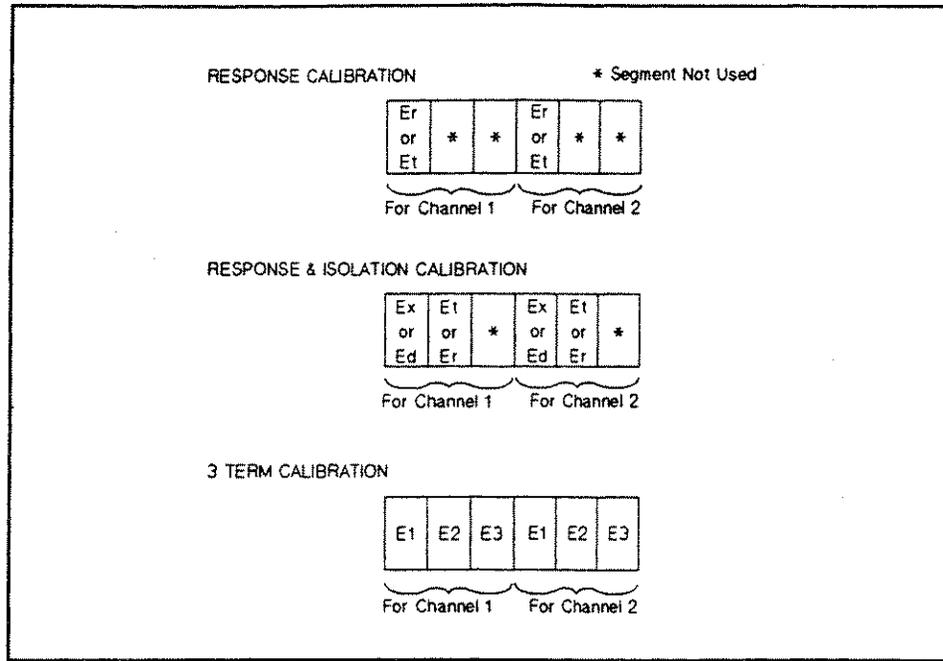

Figure 14-2. CAL Data Group Structure
- **CAL** consists of six data segments as shown in Figure 14-2. The first half of the segments are for channel 1, and the second half of the segments are for channel 2. The contents of each segment depends on the type of calibration performed. (See Chapter 10.)